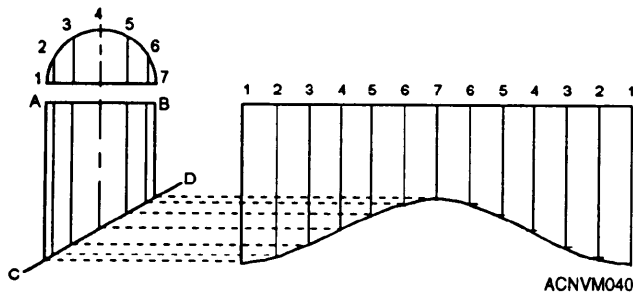

Figure 12-40.—Transferring from elevation to stretchout to making the pattern.
5. Finally, connect the points at which the arcs have intersected each of the elements, with a curve running from line A to the opposite line 1. Smooth out your curved line, add the allowances for seams, and the pattern is completed. If this final line has serious irregularities, you have made a mistake in your measurements. Your final stretchout should look exactly like the one made by projection in figure 12-40.